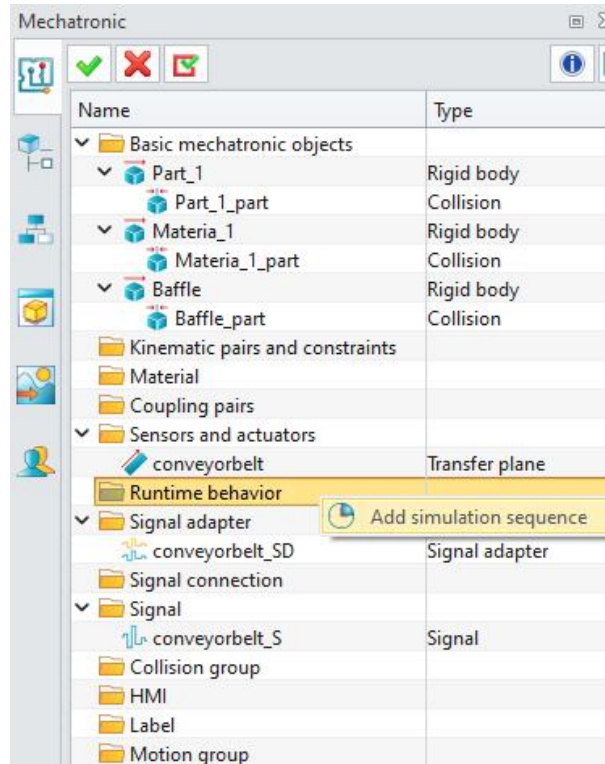

Figure 6-17: Add simulation sequence
- Click "runtime behavior", right-click and select "Add Simulation Sequence". (Figure 6-17)